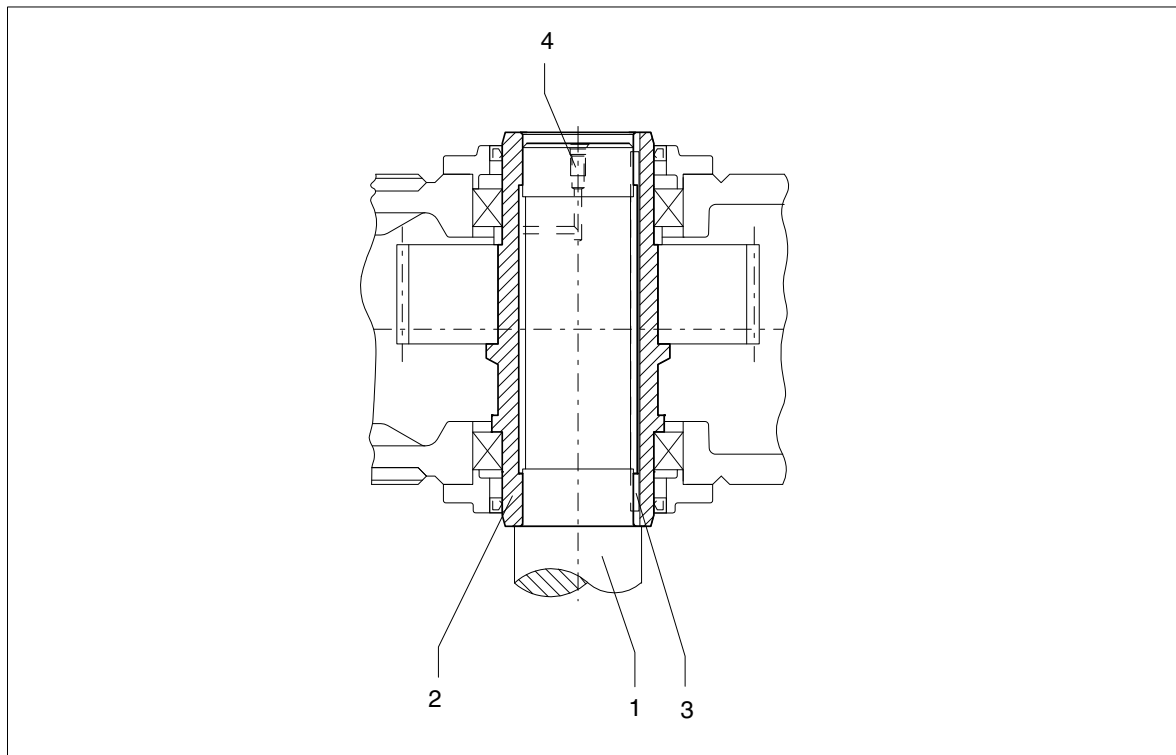

Fig. 51: Hollow shaft with parallel keyway, preparation
To facilitate demounting (see also item 6.6.3), we recommend providing a connection for pressure oil on the end of the driven machine shaft. For this a hole must be drilled through to the hollow shaft bore (see figure 51). This connection may also be used for supplying rust-releasing agent.
- If frictional corrosion has occurred on the seating surfaces, rust-releasing agent may be used in order to facilitate forcing off the gear unit. The rust releaser can be injected through the pressure-oil connection (see figure 51), e.g. using a pump.